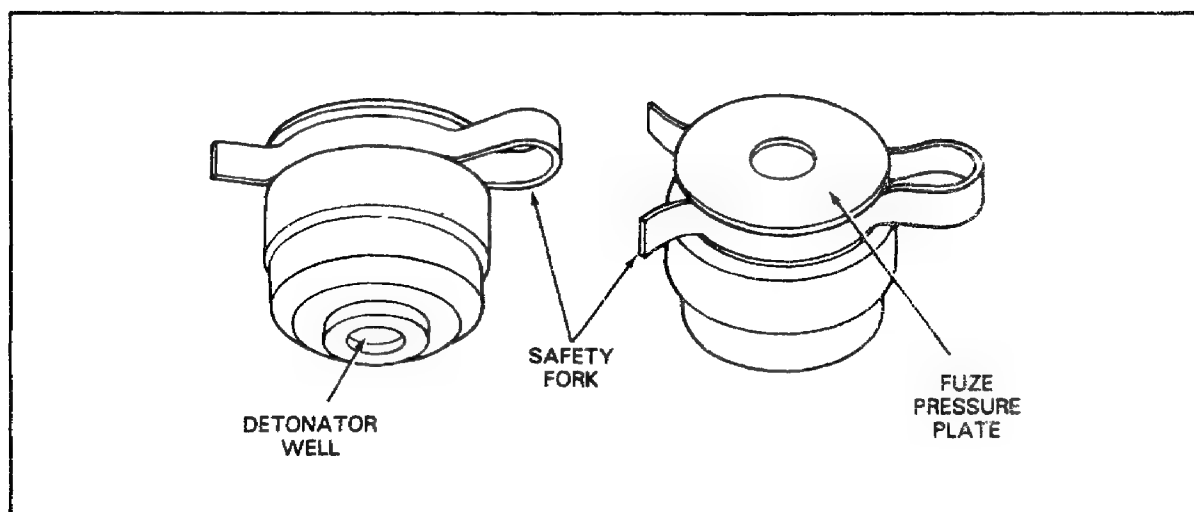

Figure 63. Pressure Type of Mine Fuze for the M15 HE Heavy Antitank Mine.
**Pressure Mine Fuze.** The pressure type of mine fuze may be an integral part of the mine or be separate from the mine. The fuze shown in Figure 63 is about 1 1/4 inches in diameter and made of unpainted metal. The markings are stamped in the side of the fuze body. The fuze has a safety fork that prevents the pressure plate from being pressed before installation. The practice version is identical to the service version, except that it is painted blue with white markings and contains a small smoke charge instead of a detonator.